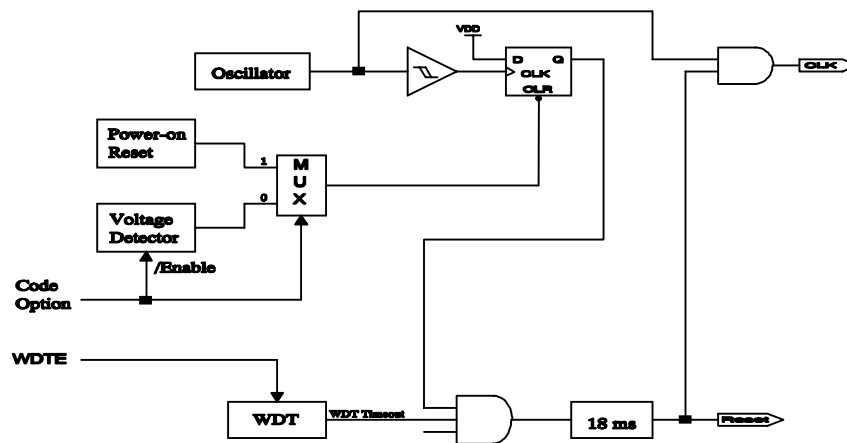

Fig. 7 Block diagram of Reset of controller
- (1) Power on reset, or Voltage detector
- (2) WDT timeout. (if enabled and in GREEN mode)
Note that only Power on reset, or only Voltage detector in Case(1) is enabled in the system by CODE Option bit. If Voltage detector is disabled, Power on reset is selected in Case (1). Refer to Fig. 7.